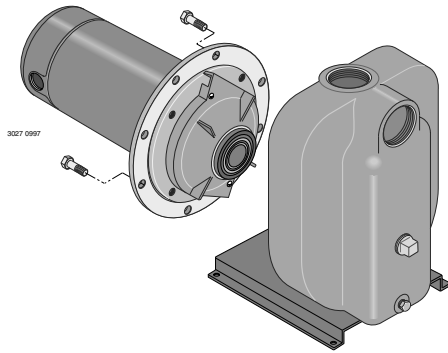

Figure 17 – Slide Motor Back
Step 4. Remove capscrews holding seal plate to pump body. Motor assembly and seal plate can now be pulled away from pump body (Figure 17). CAREFULLY remove gasket.